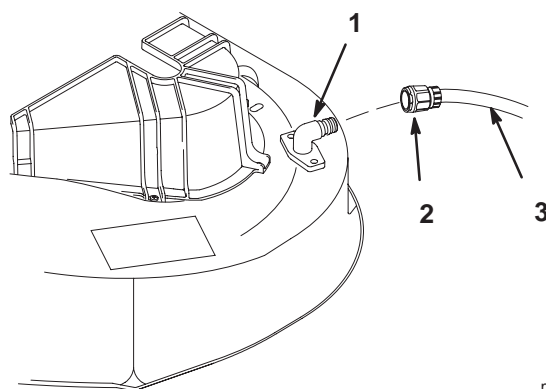

Figure 54
5. Screw the coupling to the end of a garden hose, attach the coupling to the mower washout fitting, and turn the water on high (Fig. 54).